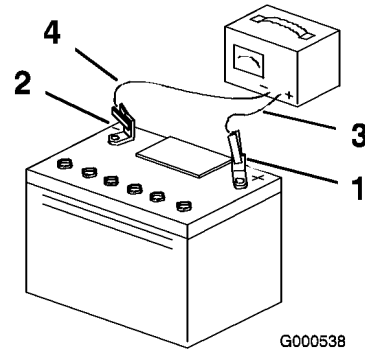

Figure 32
3. When the battery is fully charged, unplug the charger from the electrical outlet, then disconnect the charger leads from the battery posts (Figure 32).